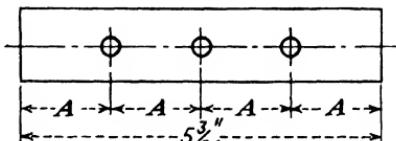

Fig. 120.
5. Holes are to be drilled on the fitting shown in Fig. 120 so that all distances marked A are equal. Draw a line $5\frac{3}{64}$ in. long, and locate the centers of the holes. Check the results with a rule.